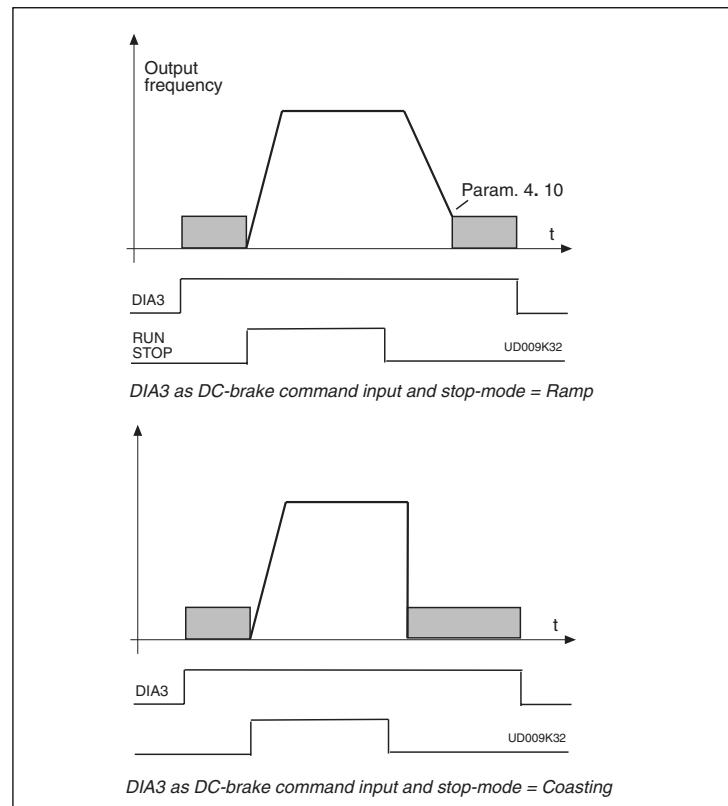

Figure 6-1 DIA3 as DC-brake command input:
- 9:** DC-braking command contact closed = In the stop mode, the DC-braking operates until the contact is opened, see figure 6-1. Dc-brake current is set with parameter 4. 8.
| 9: DC-braking command              | contact closed = In the stop mode, the DC-braking operates until the contact is opened, see figure 6-1. DC-brake current is set with parameter 4.8. |